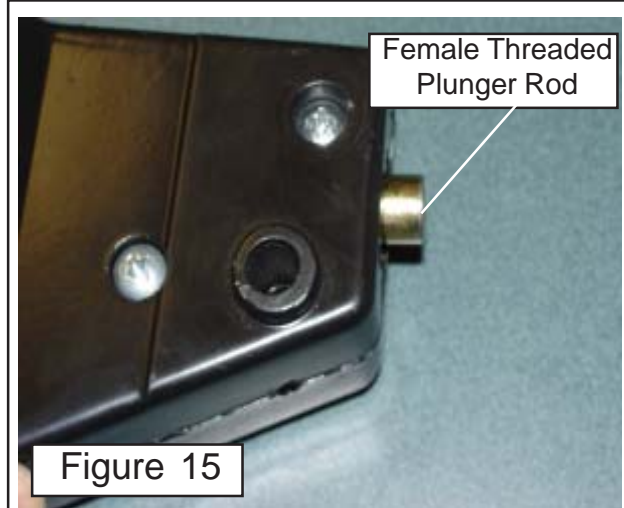

Figure 15
2. Next holding the housing, fully shift the Handle in the Control Stick Assembly to expose the female-threaded end of the Plunger Rod (See Figure 15).